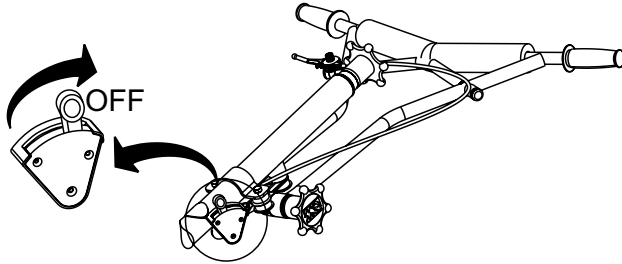

Figure 30. Testing Safety Stop Switch
1. With the engine running at idle, place the safety stop switch lever in the "OFF" position (Figure 30). Verify that the engine shuts off. If the engine continues to run, replace centrifugal safety stop switch.